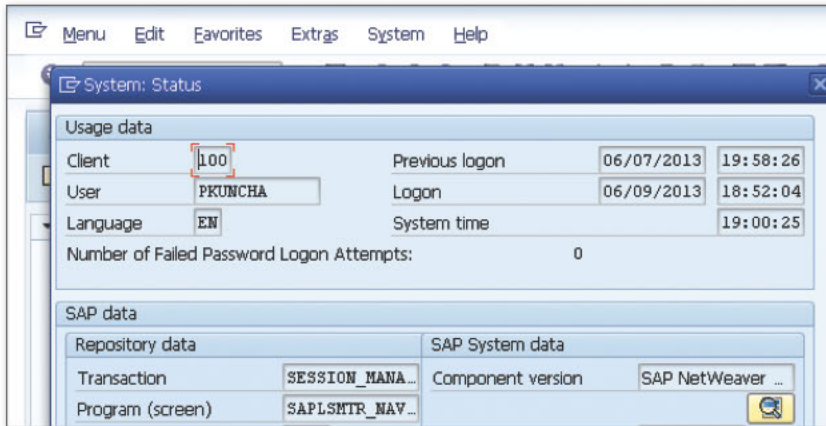

Figure 1 Component Information
1. Go to Transaction SE38, and enter the ABAP program with errors that is recently pushed to the production system. In this tip, we'll use the user exit program "ZXRSRU01" (see Figure 1), but you may use any program that needs a fix.
« Figure 1 Transaction SE38: Enter Program Name
2. On the resulting screen, click on the 'COMPONENT INFORMATION' button (see Figure 1).
1. Execute Transaction RSZDELETE in the Administration Workbench to open the screen shown in Figure 1.
➤ *Figure 1 Transaction RSZDELETE Initial Screen*